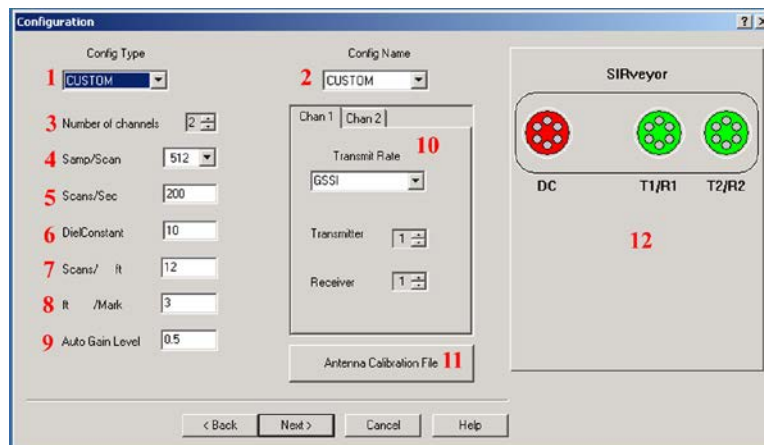

Figure 14: Configuration window.
- Once calibrated, click Save > Next >. This will open a window with the heading **Configuration** (Figure 14). *You must calibrate your survey wheel.* Failure to do so will result in an incorrect horizontal scale on your profiles.